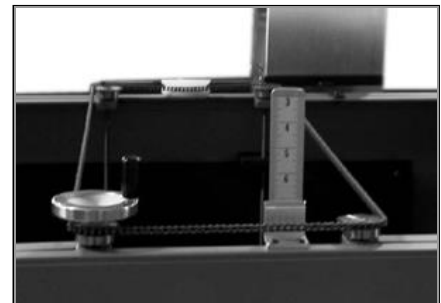

Figure 16. UV Lamp's Hand Crank & Scale
7. Adjust the height of the UV Lamp as desired by turning the UV Irradiator's Hand Crank (Figure 16). The height of the UV Lamp above the Belt is shown by a Scale mounted on the top of the conveyor so that adjustments may be performed without the operator looking into the Curing Chamber.